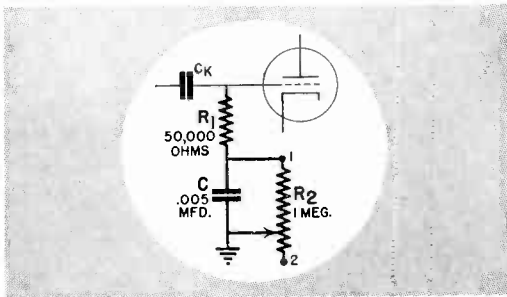

Fig. 5. Another continuously variable tone control arrangement for cutting down higher audio frequencies any desired amount.
**Another Way to Cut Highs.** A resistor, a rheostat and a condenser are the three parts employed in the tone control circuit shown in Fig. 5. This basic arrangement is well worth studying, because it is found in various forms in a great many modern receivers.